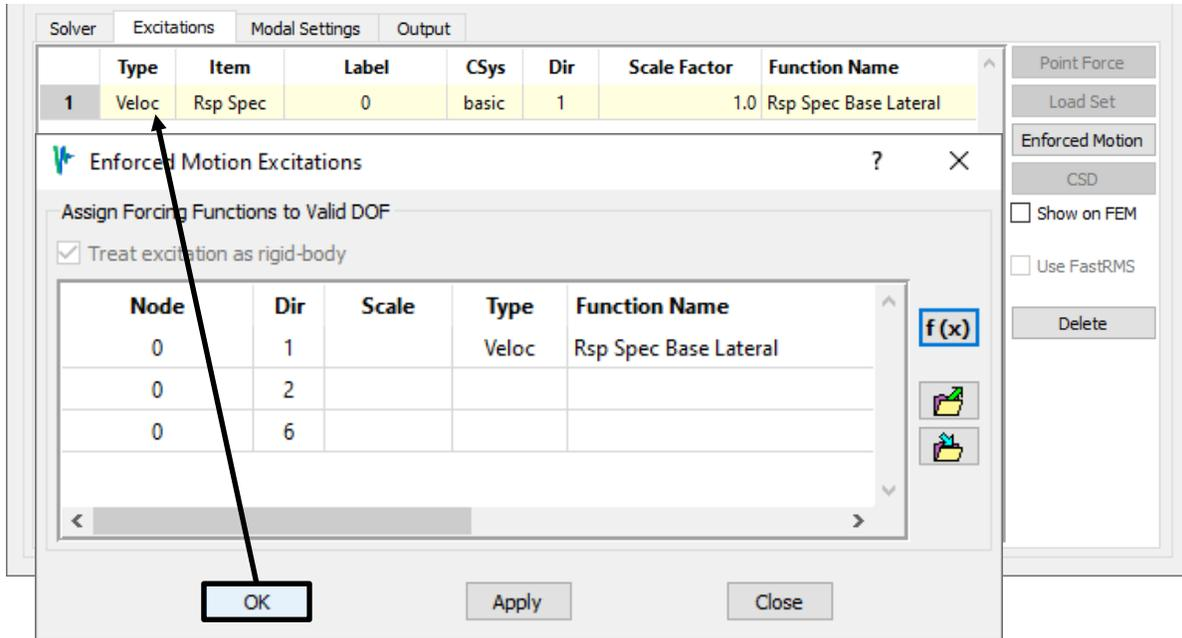

Figure 4-79. The excitation uses the basic coordinate system.
- Click **OK** on the enforced motion dialog to finalize the excitation definition (Figure 4-79). Note that it uses the basic coordinate system. Also note that it is considered part of rigid body motion set; this makes no difference here, but it would be important if more than one direction were being excited.